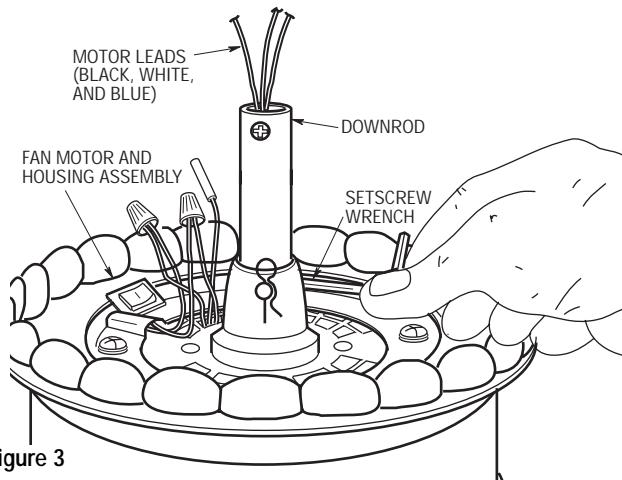

Figure 3
- 4. Align the clevis pin holes in the downrod with the holes in the motor coupling. Install the clevis pin and secure with the hairpin clip (Figure 3). (Pin and clip are supplied in loose parts bag.) The clevis pin must go through the holes in the motor coupling and the holes in the downrod. Push the straight leg of the hairpin clip through the hole near the end of the clevis pin until the curved portion of the hairpin clip snaps around the clevis pin. The hairpin clip must be properly installed to prevent the clevis pin from working loose. Pull up on the downrod to make sure the clevis pin is properly installed.
It is critical that the clevis pin in the motor coupling is properly installed and the setscrew securely tightened. Failure to verify that the pin and setscrew are properly installed (as shown in Figure 3) could result in the fan falling.
- 5. Install the setscrew (supplied) in the motor coupling (Figure 3). While pulling up on the downrod, tighten the setscrew using the setscrew wrench (supplied).